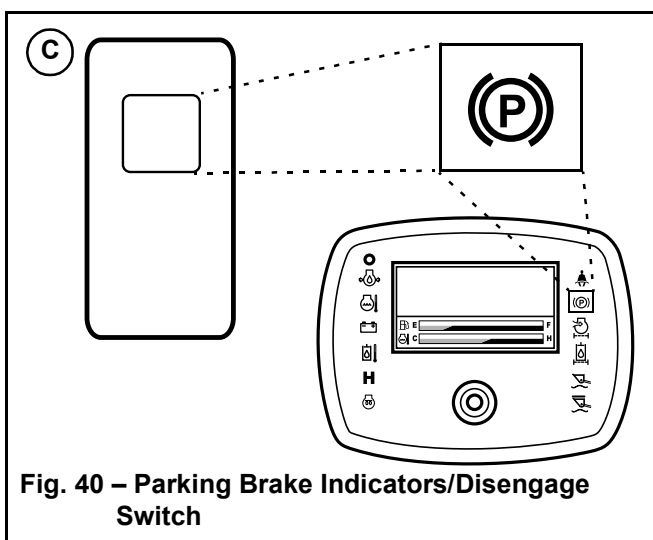

Fig. 40 – Parking Brake Indicators/Disengage Switch
5. Press and hold the top of the parking brake switch (C, Fig 40) for several seconds until the indicator lights in the switch and on the multi-function display go out.